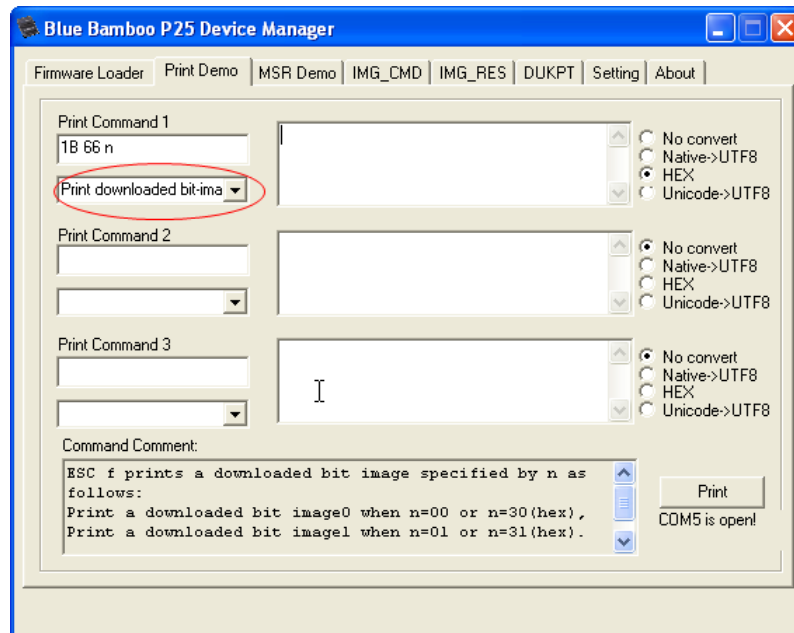

Figure 48
- j. After downloading the resource file to the printer, click **Print Demo** to active the Print Demo page then choose the corresponding command from the drop down menu as Figure 48